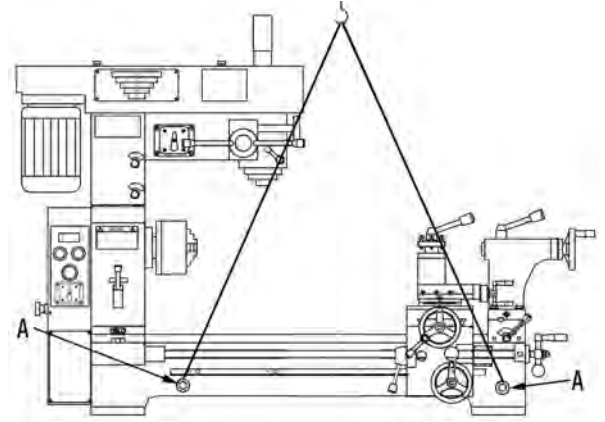

FIGURE 3
2. Transport machine using lifting equipment such as a fork lift, hoist or crane. Holes (A) Fig.3 are provided at each end of the bed, insert 3/4" steel bars through these holes and use lifting straps to lift, as shown in Fig.3.